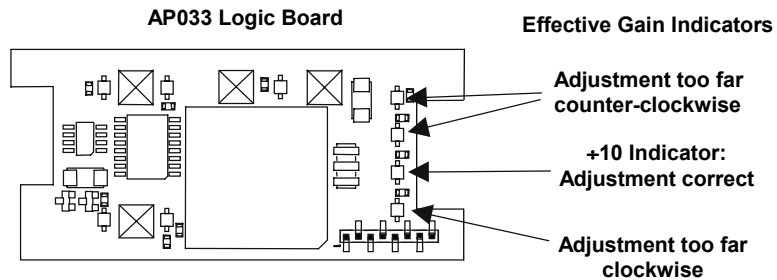

Figure 12. ± 10 Effective Gain Indicator
7. In Cal Mode, the **EFFECTIVE GAIN** indicators serve as an adjustment indicator. The **EFFECTIVE GAIN** indicators are located on the Logic Board (See Figure 12.) It may be necessary to hold the boards in your hands to see the indicators while making the adjustment.